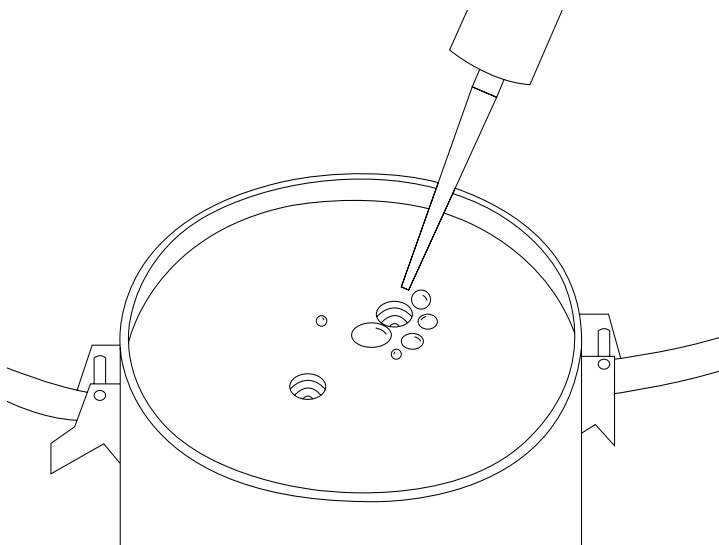

Figure 25 Fill HYPROP holes
21. Fill the holes of the HYPROP sensor unit with deionized water using the droplet syringe (Figure 25).